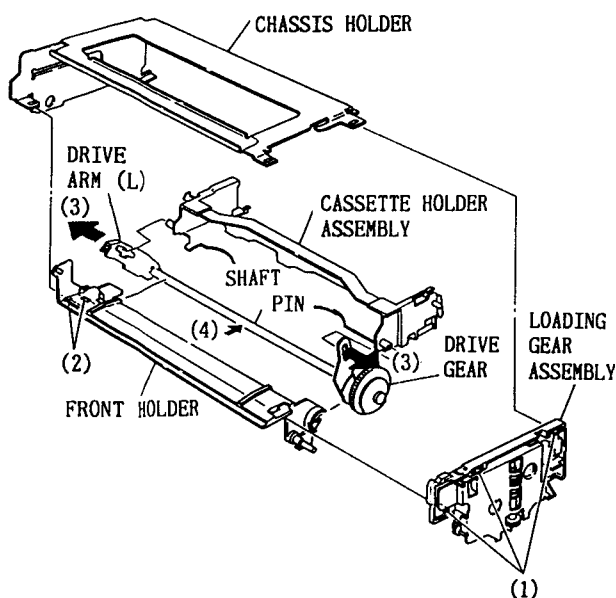

Fig. 5-2 Loading Gear Assembly, Chassis Holder, Cassette Holder Assembly and Front Holder
2. Loading Gear Assembly, Chassis Holder, Cassette Holder Assembly and Front Holder Loading Gear Assembly (Fig. 5-2)